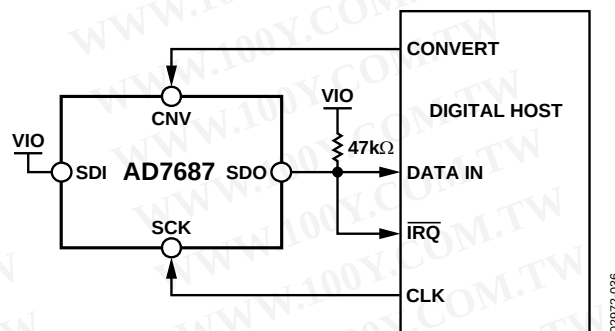
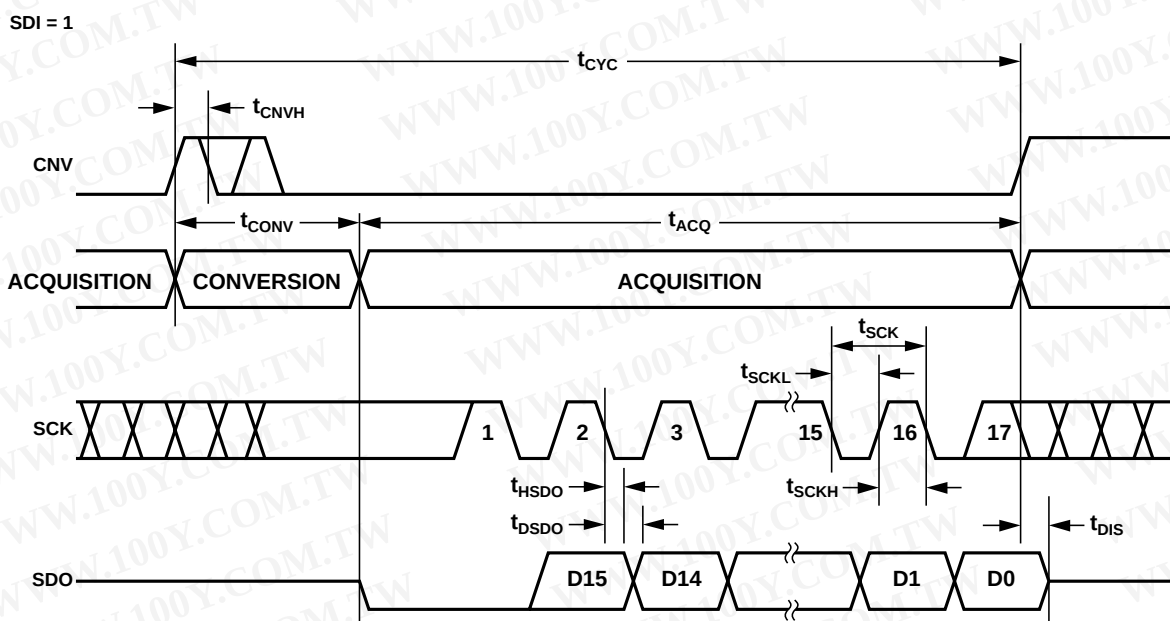
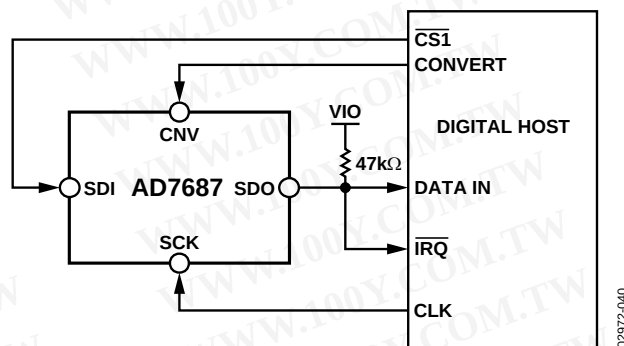
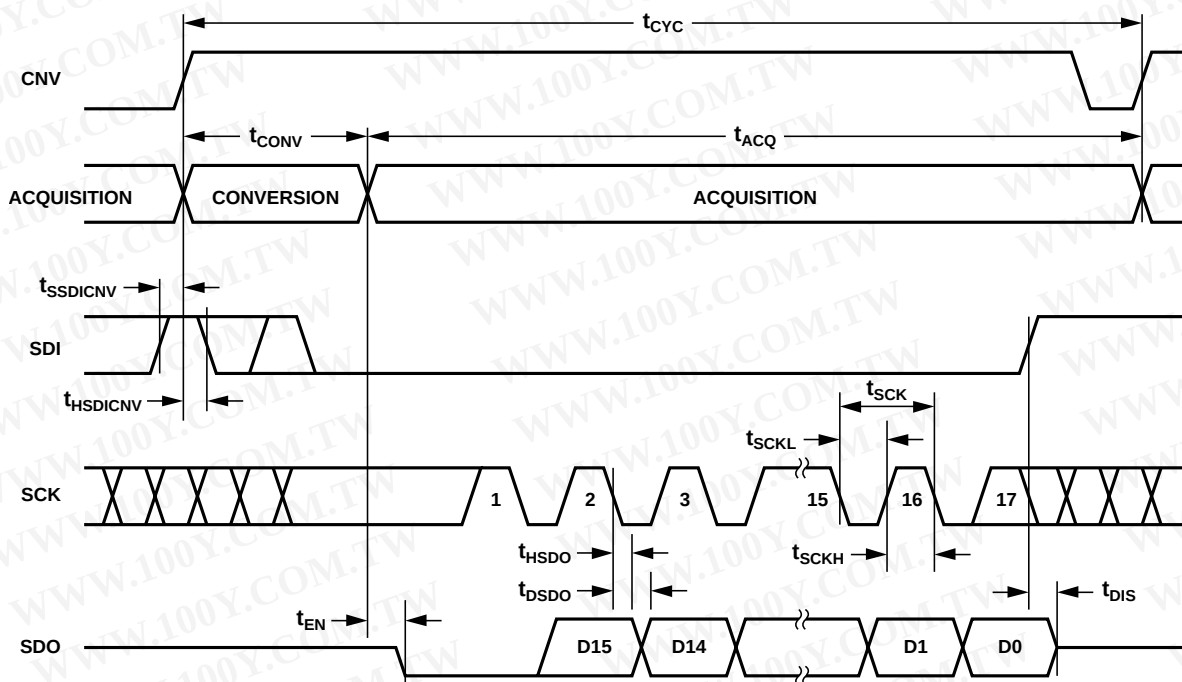

Figure 37. $\overline{\text{CS}}$ Mode 3-Wire with BUSY Indicator Connection Diagram (SDI High)
Figure 38. $\overline{\text{CS}}$ Mode 3-Wire with BUSY Indicator Serial Interface Timing (SDI High)
Figure 41. $\overline{\text{CS}}$ Mode 4-Wire with BUSY Indicator Connection Diagram
Figure 42. $\overline{\text{CS}}$ Mode 4-Wire with BUSY Indicator Serial Interface Timing
- In the $\overline{CS}$ mode, if CNV or SDI is low when the ADC conversion ends (Figure 38 and Figure 42).
The connection diagram is shown in Figure 37 and the corresponding timing is given in Figure 38.
The connection diagram is shown in Figure 41 and the corresponding timing is given in Figure 42.